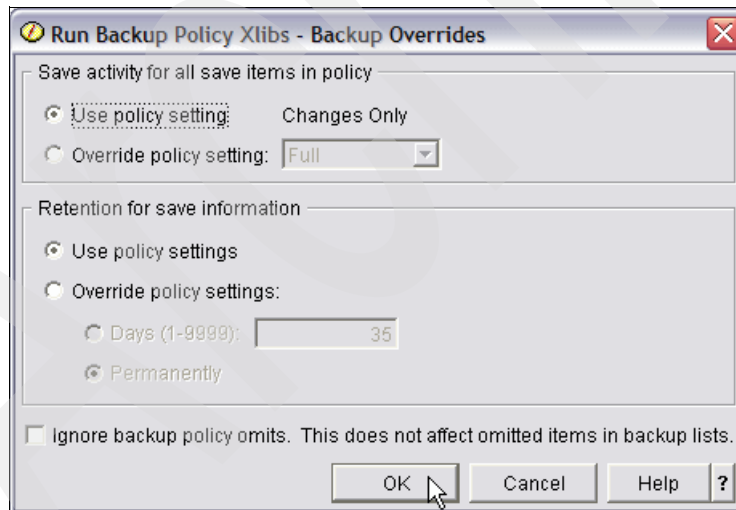

Figure 6-77 Run Backup Policy - Backup Overrides
2. Run Now opens the window shown in Figure 6-77, which lets us make overrides to our defined backup. We run with the defined policy settings. Click **OK**.